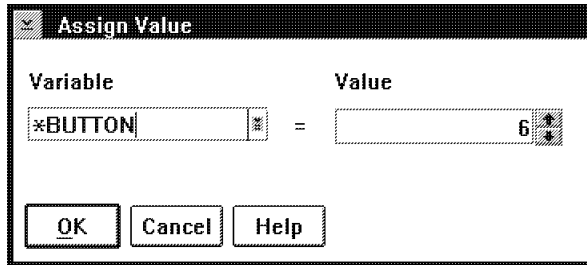

Figure 38. Assign Value Window
1. Double-click mouse button 1 on the assign value node in the work process diagram. You see the Assign Value window shown in Figure 38 on page 75.